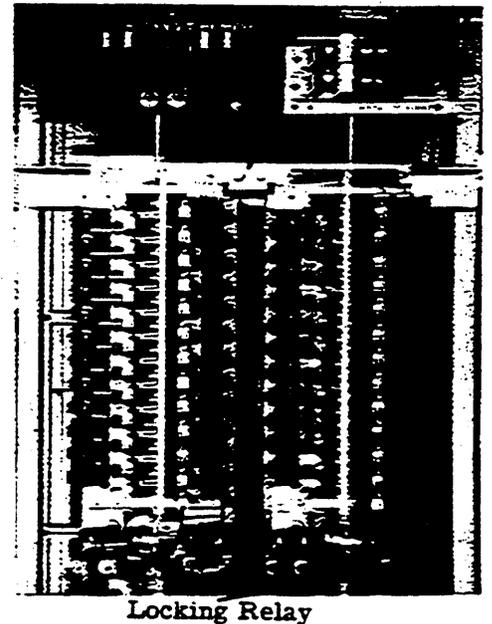

Figure 11. View of a Fantail Plunger Lineswitch Bay to Show Location of Master Switch Locking Relay and Alarm Lamps.
3.16 Manually hold locking relay of master switch operated until alarm is heard. (See Fig. 11.) After alarm is heard, check each bay in line-up in the following manner. Hold locking relay of initial bay, push-up locking relay of next bay, release locking relay in initial bay. Alarm should be continuously heard. Repeat above procedure for each line-up of fantail plunger lineswitch bays.